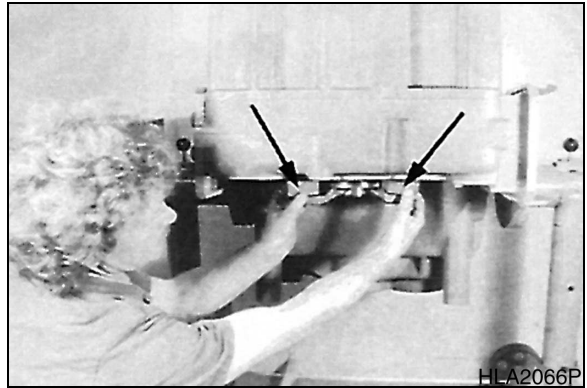

Figure 102
- Support output flange against gearbox housing, see Figure 102.